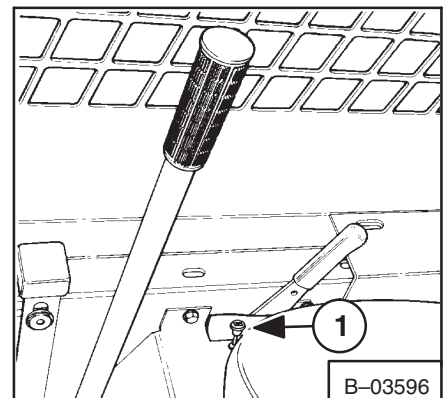

Fig. 7C-3 Engine Stop Control
6. If the engine still does not run correctly (rough) open the bleed screw (Fig. 7C-2, Item 1) for several minutes until the engine runs smoothly.
2. Connect a circuit tester , one terminal to each end of the glow plug (Fig. 7C-4).